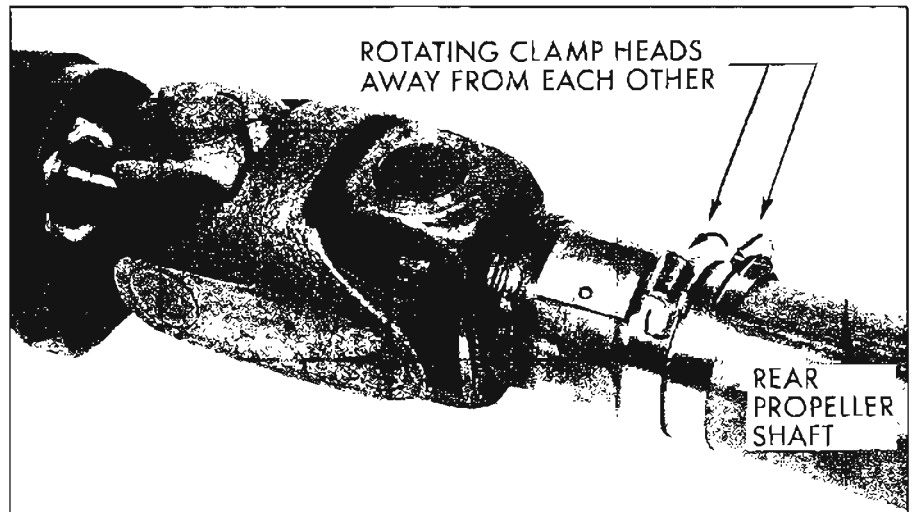

Figure 6-77—Rotating Hose Clamp Heads from Each Other
6. Run the car through the speed range to 65 - 70 MPH. If no unbalance is felt, nothing further need be done on the hoist. However, if unbalance still exists, rotate both clamps to the opposite side of the shaft and retighten. Run car again and notice if the unbalance feel is better or worse; if worse, return the clamps to the original position. Apparently the combined weight of the two hose clamp heads was excessive, so to reduce this excess rotate the clamp heads away from each other 45° (one each way from the original position). See Figure 6-77. Run car and note if unbalance has improved.